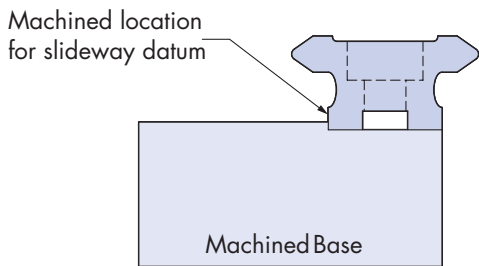
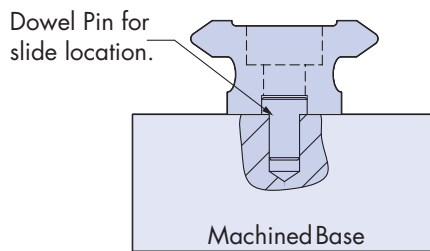

Figure 1.1 Machined register for slide location
Figure 1.2 Dowel pin location method
1.1 To ensure straightness the slide needs to be set against an accurately machined register as shown in figure 1.1. Alternatively dowel pins can be used to set the slide parallel as seen in figure 1.2. The holes for the dowel pins should be accurately machined to ensure that the slide is straight when assembled.